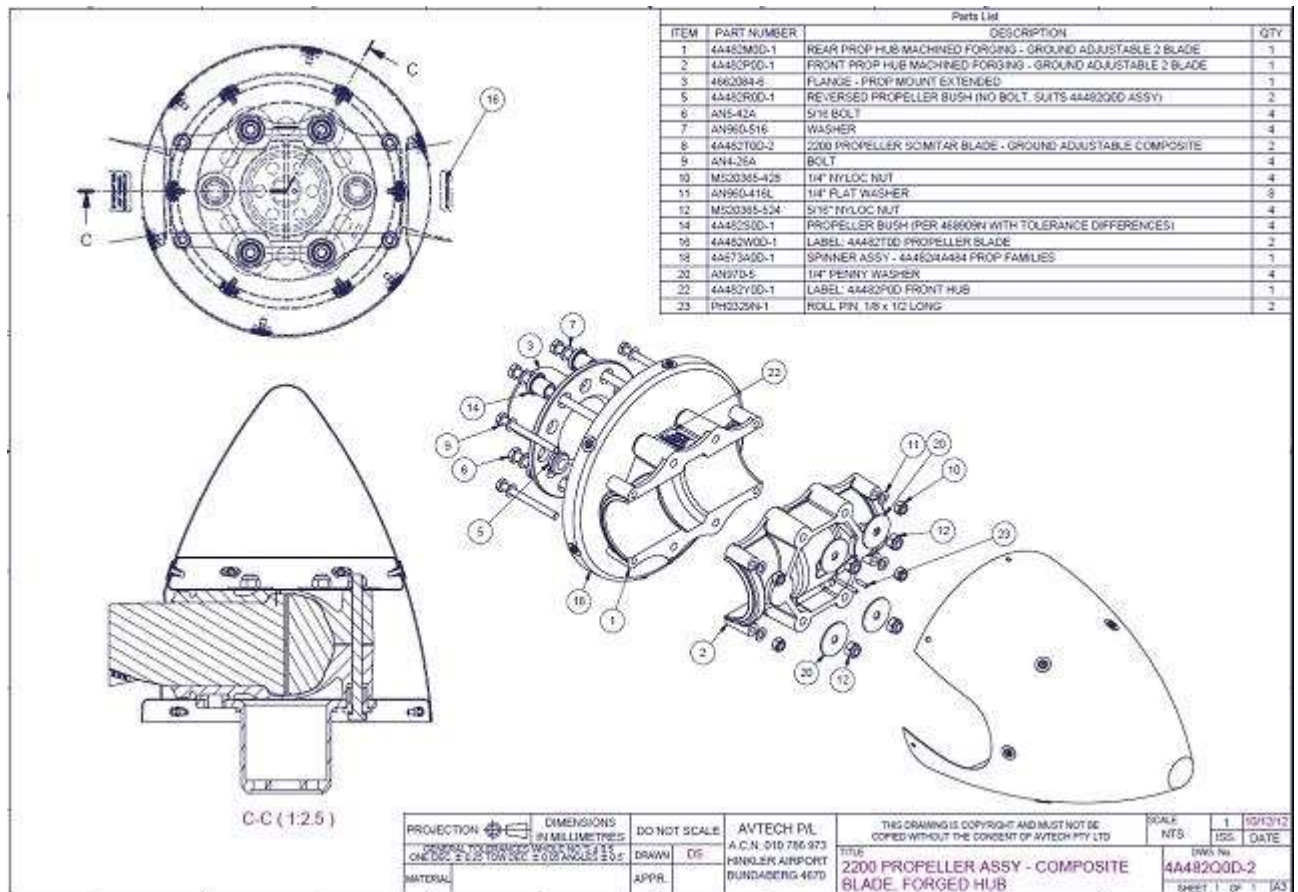

Figure 1 – Typical Propeller Installation
1. Figure 1 shows typical propeller installation details.